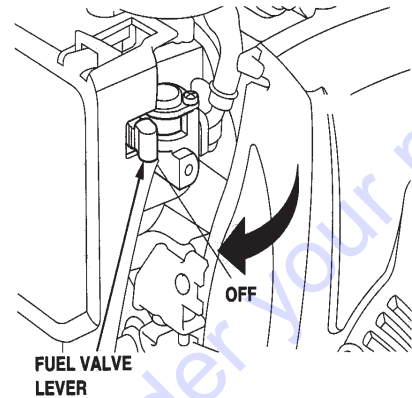

Figure 20. Fuel Valve Lever (OFF)
4. Place the **fuel shut-off lever** (Figure 20) in the **OFF** position.